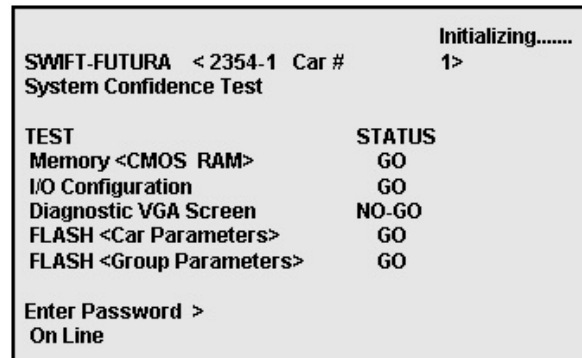

Figure 3-10
5. Cycle off CB2 then back on and check terminal for Confidence test. See Figure 3-10.